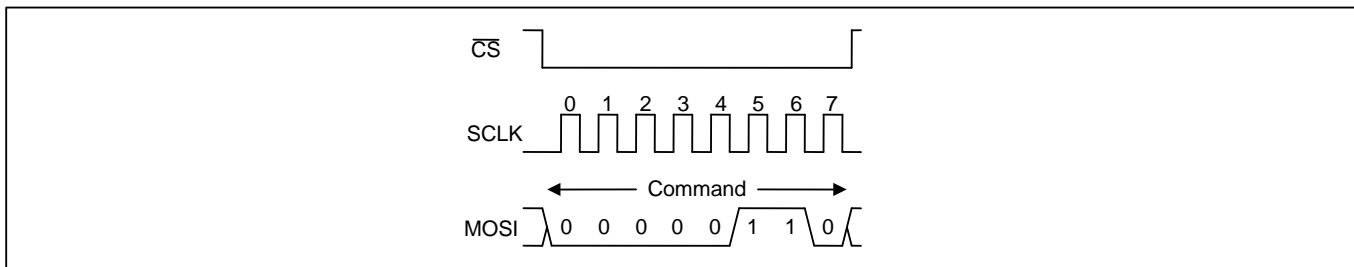
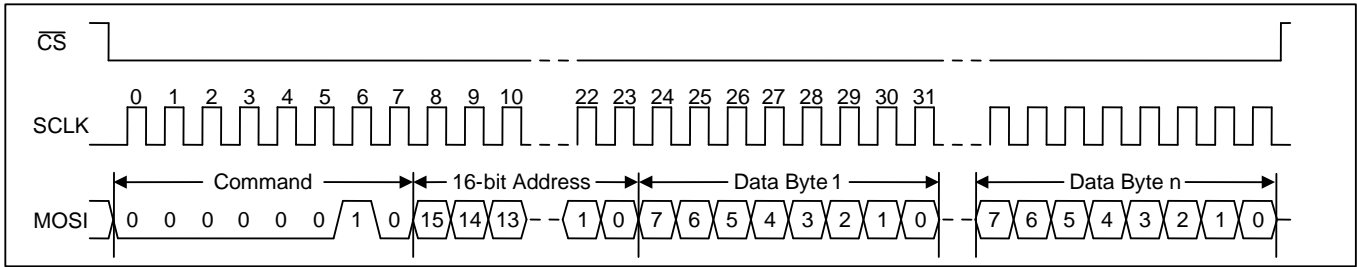

Figure 6 - SPI Write Enable Transaction Functional Timing (ZL40251 and ZL40253 Only)
Figure 7 - SPI Write Transaction Functional Timing
**Register Write Transactions.** The device registers are accessible when **EESEL**=0. After driving CSN low, the bus master transmits the write command followed by the 16-bit register address followed by the first data byte to be written. The device receives the first data byte on MOSI, writes it to the specified register, increments its internal address register, and prepares to receive the next data byte. If the master continues to transmit, the device continues to write the data received and increment its address counter. The write transaction is completed when the bus master drives CSN high. See Figure 7.
increments its internal address register, and prepares to receive the next data byte. If the master continues to transmit, the device continues to write the data received to its page buffer and continues to increment its address counter. The address counter rolls over at the 32-byte page boundary (i.e. when the five least-significant address bits are 11111). When the bus master drives CSN high, the device transfers the data in the page buffer to the appropriate page in the EEPROM memory. See Figure 6 and Figure 7.